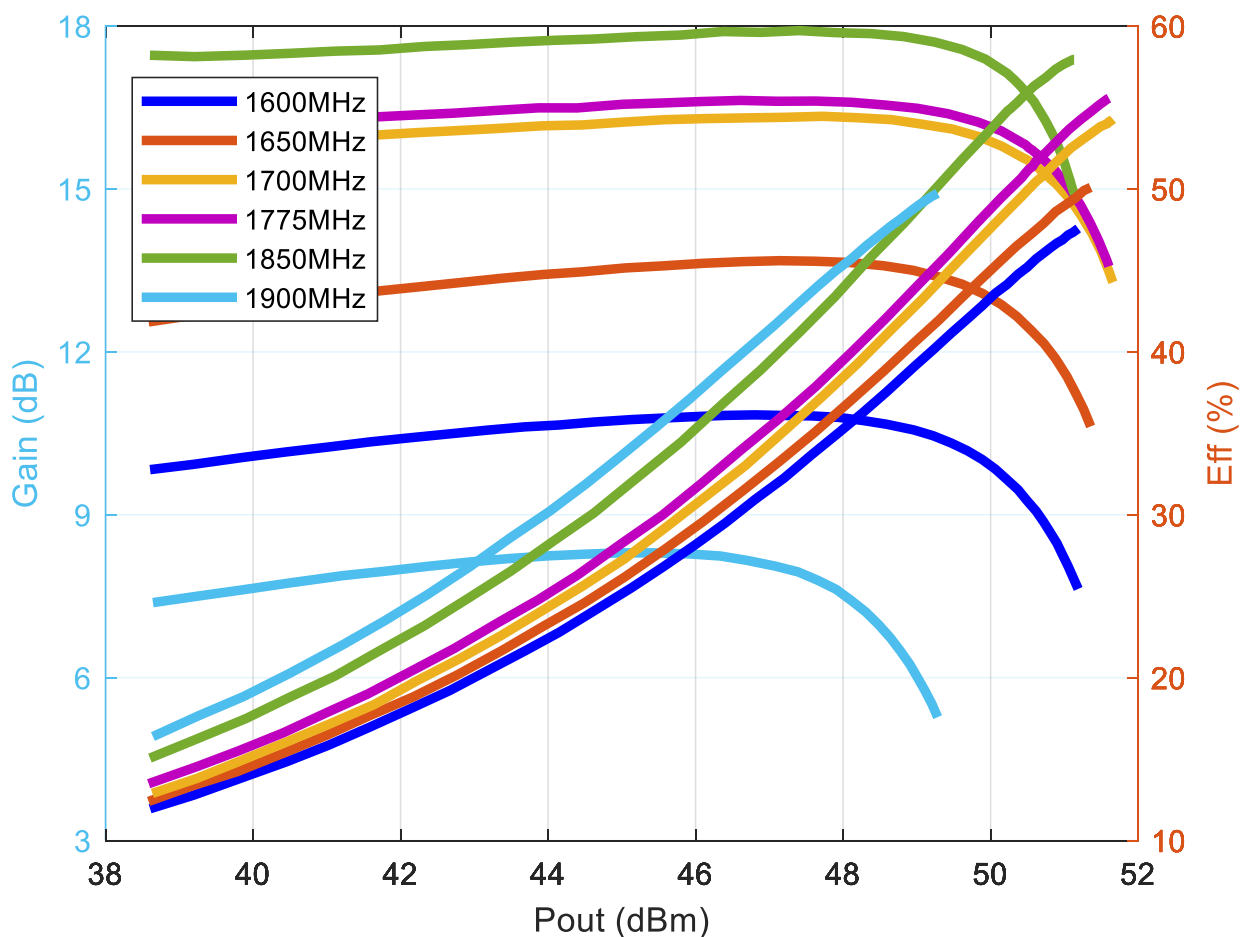

Figure 5. Gain and Drain Efficiency vs Output Power
- Figure 5. Gain and Drain Efficiency vs Output Power 10